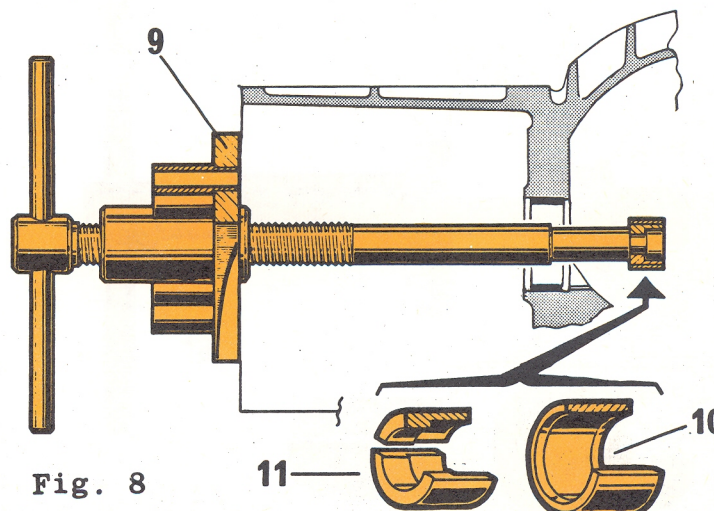
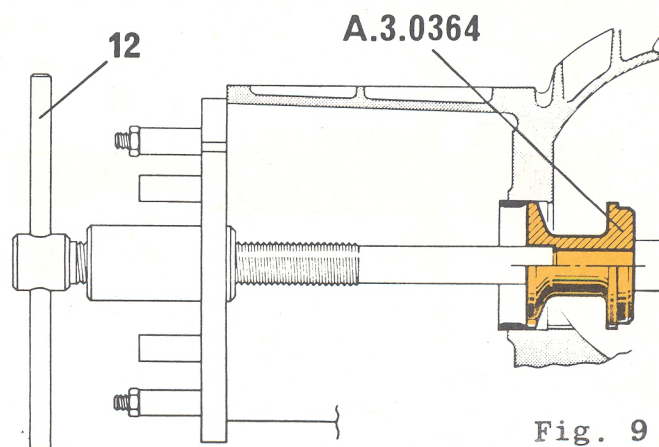

Fig. 8
Fig. 9
Place the tool A.3.0348 in line with the pinion rear bearing centreline and rest the cross-member "9" (see fig. 8) against the outer edge of casting.
### **14** Remove the ring "10" and the half-bushing "11" from the tool A.3.0248 (see fig. 8) and install the tool A.3.0364 (see fig. 9).
- 15 Align the tool with the bearing seat centreline and withdraw the rear bearing race by rotating the handle "12" (see fig. 9).
Place the tool in the same position as shown at fig. 9 except that tool A.3.0364 should be in a slightly backward position.